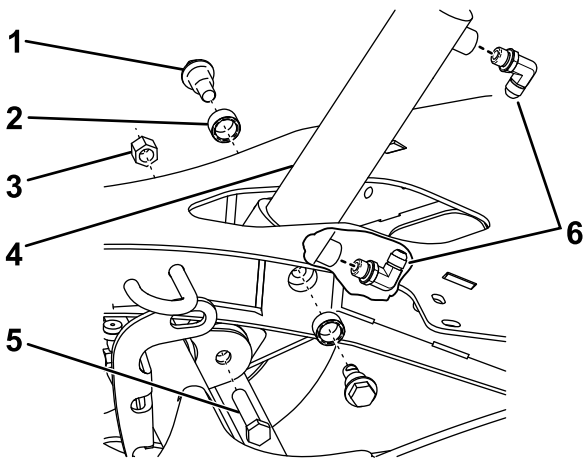

Figure 9
1. Install the 90° fittings to the lift cylinder (Figure 9).
2. Attach the hydraulic cylinder to the A-frame using 2 shoulder bolts (1/2 inch) and bushings (Figure 9), and torque the bolts to 77 N·m (57 ft-lb).
3. Attach the hydraulic cylinder rod to the machine frame using a hex-head bolt (1/2 inch) and nylon locknut (1/2 inch) as shown in Figure 9.